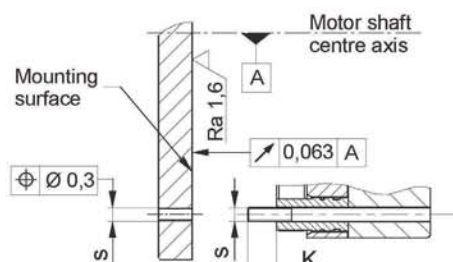

Fig. 5
- ☐ On hub designs (Type 8012.1__3), the hub bore (10) tolerances and the shaft must be selected so that the hub toothing (10) is not widened. Widening of the toothing leads to the rotor (3) jamming on the hub (10) and therefore to brake malfunctions. Recommended hub - shaft tolerance H7/k6. If the hub (10) is heated for better joining, the O-ring (11) must be removed beforehand and re-mounted after hub installation. The max. permitted joining temperature of 200 °C must not be exceeded.
- ☐ Dimensioning of the key connection according to the requirements shaft diameter, transmittable torque and operating conditions must be carried out. For this, the corresponding user data must be known or the customer must carry out the dimensioning according to the valid calculation basis DIN 6892. For the calculation, a hub quality of Re = 300 N/mm² should be used. The length of the key should lie over the entire hub (10).
- ☐ The mounting dimensions and the screw-on surface s with depth K + 2 mm (K = screw projection) acc. Catalogue or applicable assembly drawing must be given (Fig. 5).